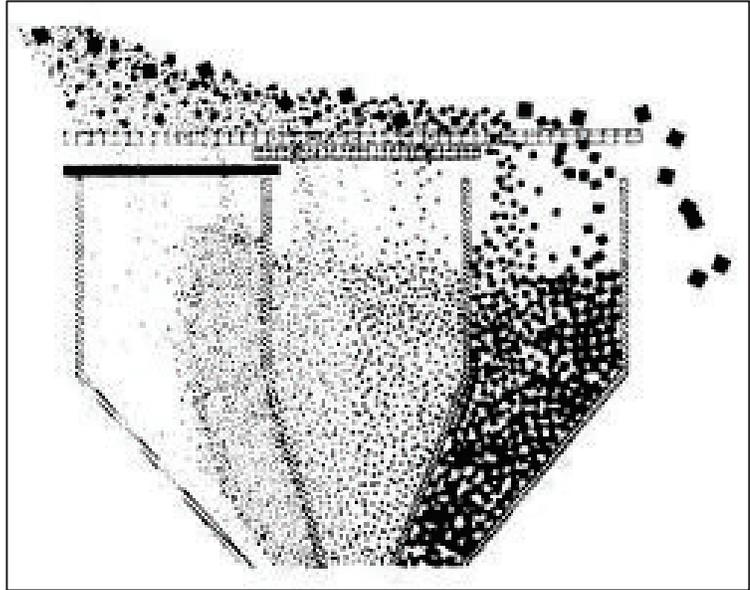

Figure 7-13: Hot Bin Sampling
- As materials flow over the plant screens, the finer particles fall to the near side of the bins, and the coarser particles to the far side, as illustrated in Figure 7-13.